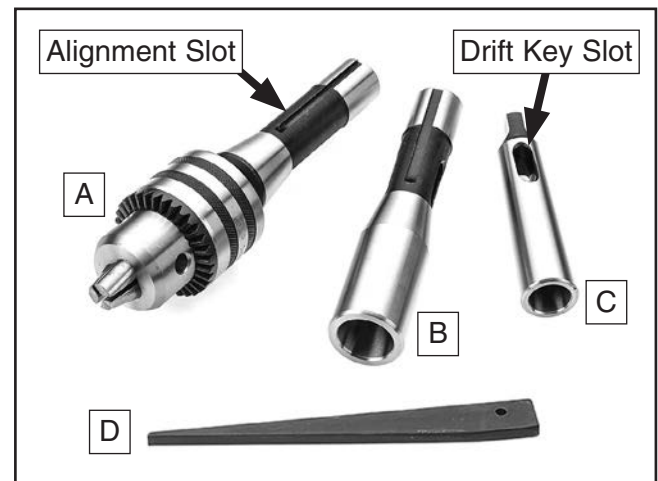

Figure 18. Drill chuck, arbors, and drift key included with Model G0779.
The Model G0779 includes the following spindle tools (see **Figure 18**):
3. Align tool alignment slot (see **Figure 18** on **Page 22**) with pin inside spindle, then insert tooling into spindle until it contacts drawbar.